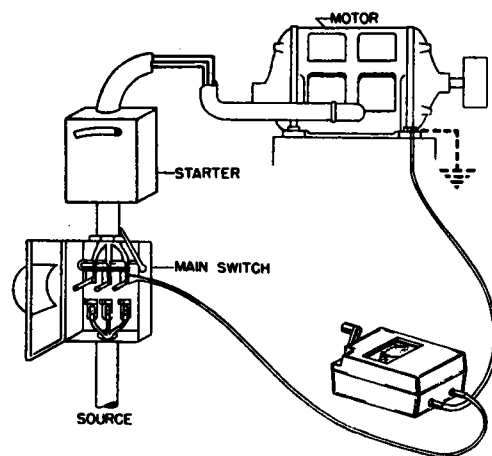

Figure 3-3. Motors and Starting Equipment, Test Connections
b. **MOTORS AND STARTING EQUIPMENT.** — See figure 3-3 for connections for testing the insulation resistance of connecting lines in parallel. Disconnect the component parts and test them separately to determine where weakness exist.